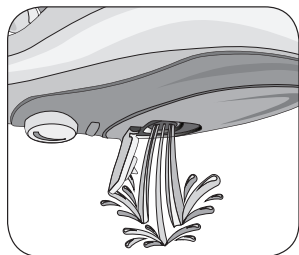

Fig. 10
Turn the steam control knob (F) on "0". Remove the power cable from the socket-outlet. Empty the water tank completely so as to prevent the water from stagnating, which may form lime deposit (Fig 10).